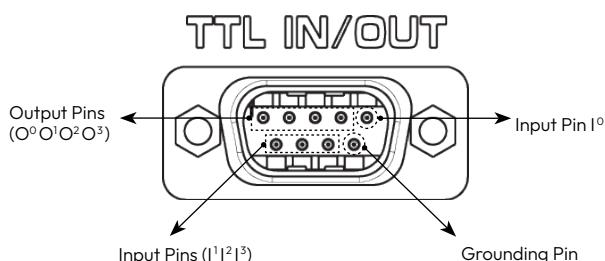

Figure 6.1: TTL IN/OUT Pin Diagram
This option will allow the user to turn On and Off a 5 volt signal to each of the four TTL output pins on the back of the Microlab 600. The pins can be turned On and Off in any configuration using a series of four binary digits ($O^3O^2O^1O^0$) to represent the On/Off state of each pin. A value of 0 indicates that the pin will be turned Off while a value of 1 indicates the pin is On. To turn pin 0 On while pins 1, 2 and 3 are Off the proper number would be 0001. To turn pins 1 and 2 On while pins 0 and 3 are Off the proper number would be 0110. The pin numbers are described in Figure 6.1.
- **TTL:** When TTL is selected the instrument will wait for a change in the value detected by the four input pins located on the back of the pump. This can be used to trigger the pump in an automated process. See Figure 6.1 to identify which TTL pins are used for input signals.